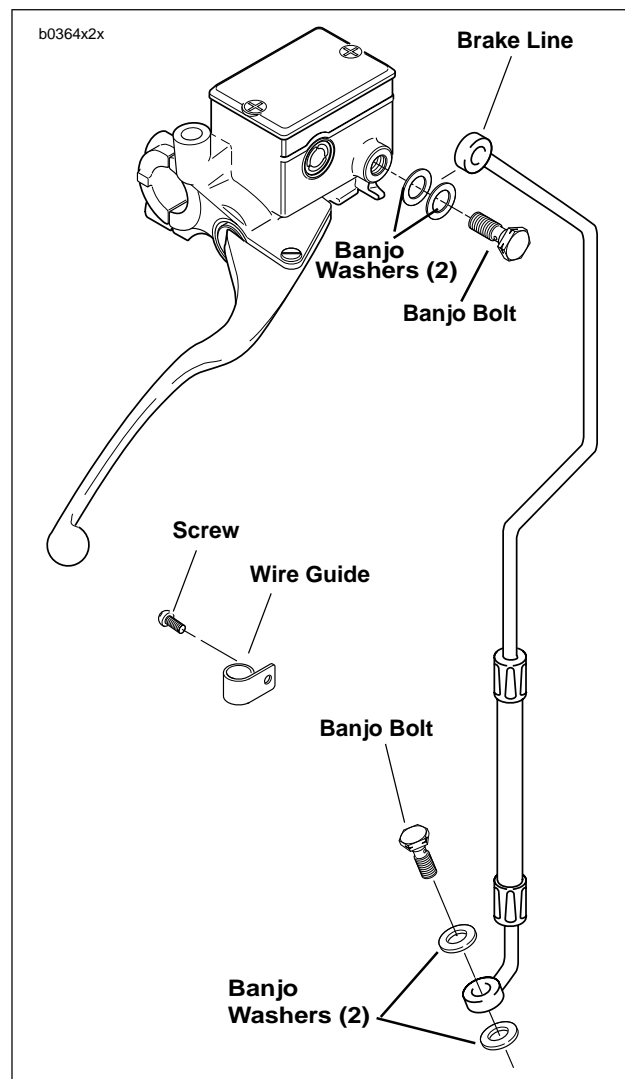

Figure 2-31. Front Brake Line
2. See Figure 2-31. Remove screw to detach brake line clamp from right side of lower triple clamp.
1. See Figure 2-31. Connect brake line to master cylinder using two **new** banjo washers and banjo bolt (metric).